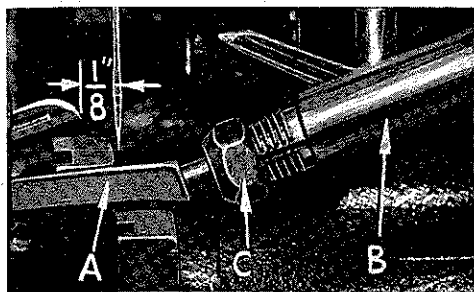
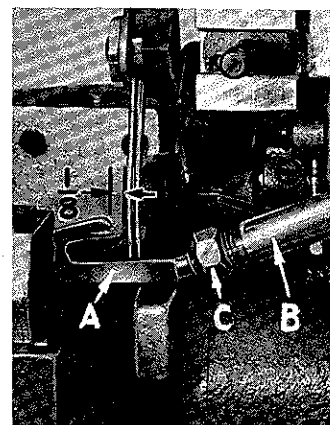

Fig. 5
Fig. 5A
At this point, insert lower looper (A, Fig. 5) for Style 39500 JK or lower spreader (A, Fig. 5A) for Style 39500 JL, into bar (B). With lower looper or spreader at the left end of its stroke, set looper point 1/8 inch from center of needle (Fig. 5) or set lower spreader 1/8 inch to the left of the center-line of left needle (Fig. 5A), using looper gauge No. 21225 G-1/8. Do not have lower looper or spreader deflecting needle. Tighten nut (C). Now assemble differential (front) feed dog.